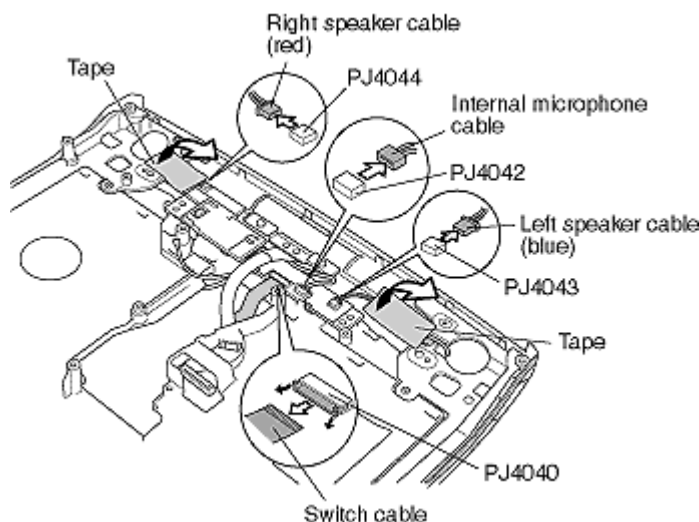

Figure 4-60 Disconnecting the cable and removing the tape
To remove the switch board, follow the steps below and refer to Figures 4-60 to 4-62.
To install the Switch board, follow the steps below and refer to Figures 4-60 to 4-62.
2. Disconnect the following cables from the switch board, if necessary (refer to Figure 4-60).
4. Connect the following cables to the switch board, if necessary (refer to Figure 4-60).